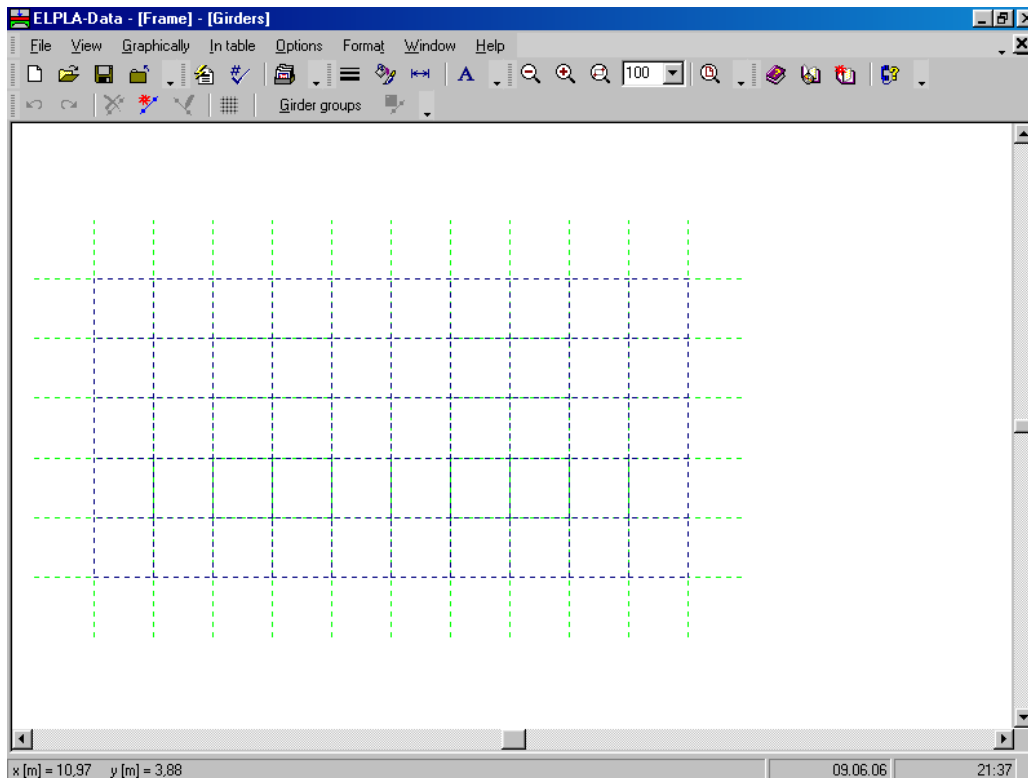
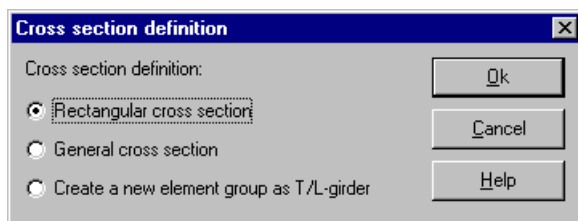

Figure 7-11 "Girders" embedded program
Figure 7-12 "Cross section definition" option box
To define the frame members, choose "Girders" command from "Data" menu of *ELPLA-Data*. The following embedded program in Figure 7-11 appears.
- Choose "Girder groups" command from "In table" menu in Figure 7-11. The following option box in Figure 7-12 appears